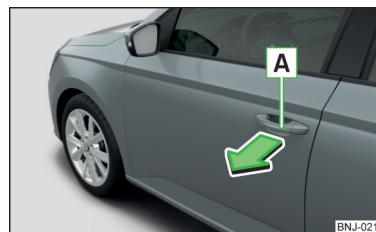

Fig. 46
- › To **open from the outside**, unlock the vehicle and pull the door handle **A** in the direction of the arrow » Fig. 46.